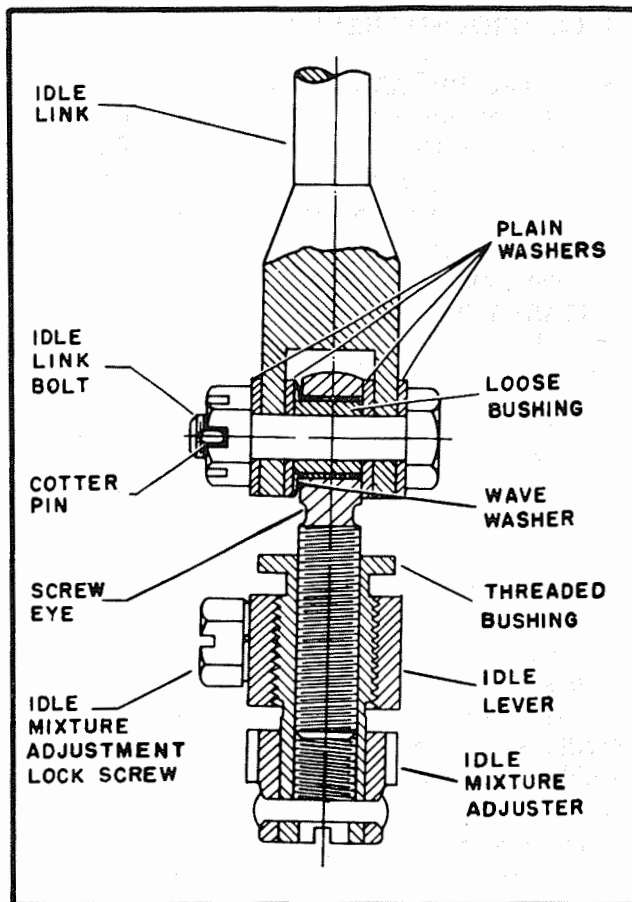

Figure 6-1. Cross-Section of Idle Mixture Adjustment
b. Loosen the idle mixture adjustment lock screw. See figure 6-1. Turn the idle mixture adjuster, one notch at a time (clockwise to enrich the mixture, counterclockwise to lean the mixture), until the lowest manifold pressure and the highest rpm can be obtained.
**6-28. ADJUSTMENT OF IDLE MIXTURE LINKAGE TO SHIFT THE MIXTURE ADJUSTMENT RANGE.** See figure 6-1. When the idle mixture adjuster has insufficient travel to obtain the correct idle mixture, readjust as follows:
- Reconnect the idle link and the screw eye (figure 6-1). Ensure that the wave washer fits over the OD of the loose bushing between the screw eye and the plain washer.